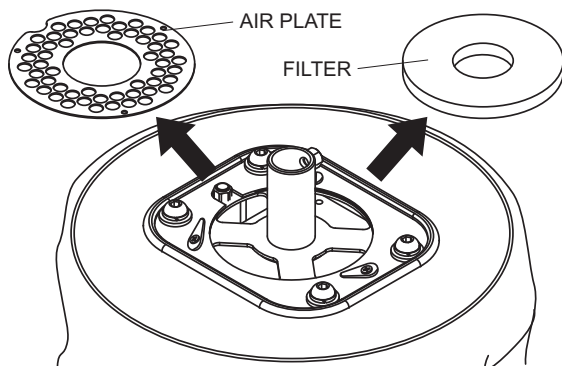

Figure 45. Filter Removal
4. Remove the air plate and filter. See Figure 45.